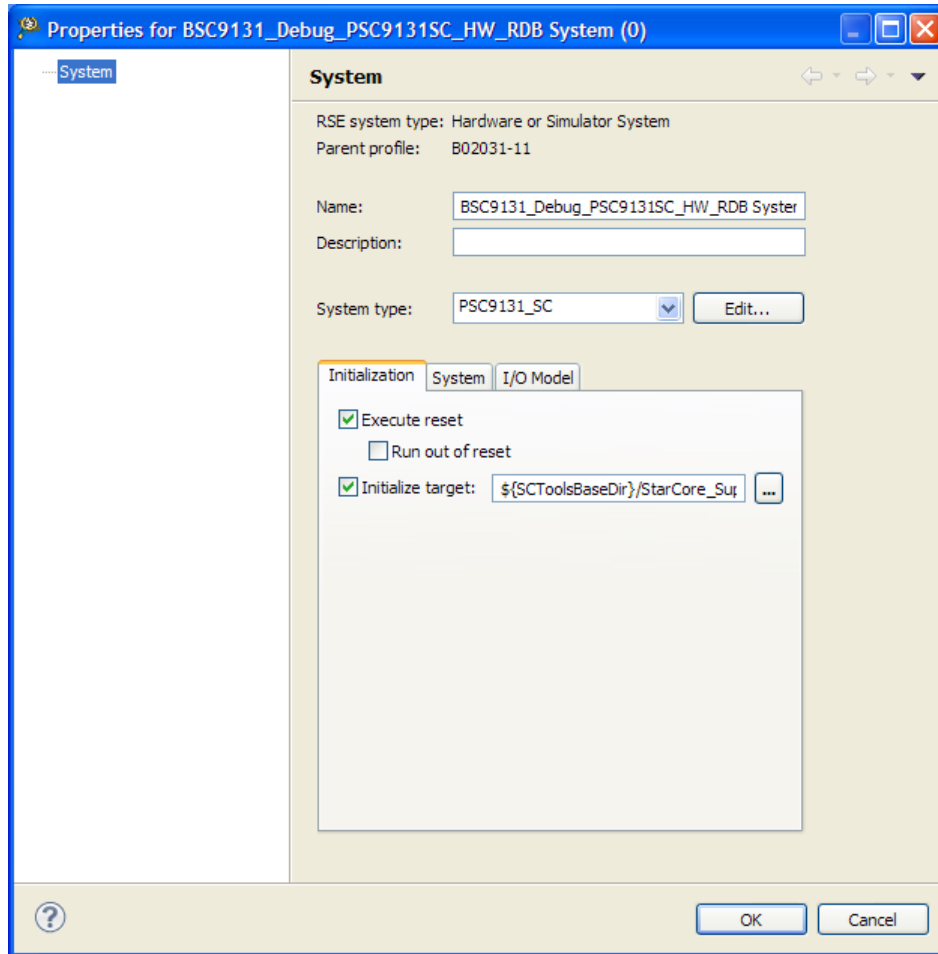

Figure 16. System properties window for the BSC9131 debug configuration
Confirm that the project has the string “SC” as part of the name. If it does not, the debugger will not configure the board JTAG chain properly for a two-TAP scheme. This can be corrected in the debugger settings, by using the **System Type** menu in Figure 16 to select the correct configuration.
The **Properties for BSC9131_Debug_PSC9131SC_HW_RDB System (0)** window appears (Figure 16).